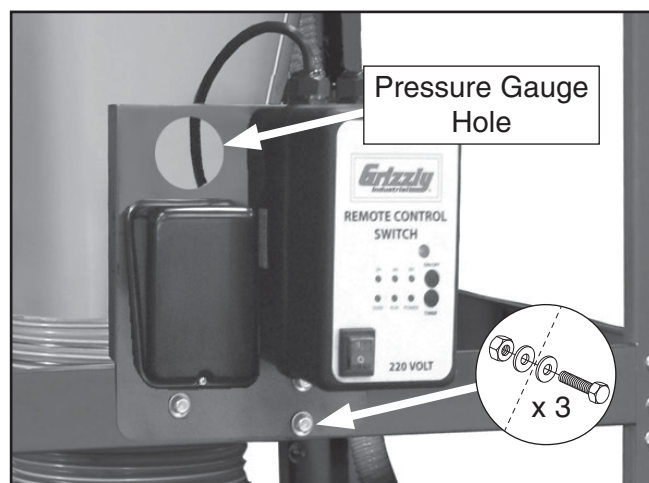

Figure 31. Switch mounted to stand.
42. Mount switch on stand, as shown in **Figure 31**, with (3) $\frac{3}{8}$ "-16 x $\frac{3}{4}$ " hex bolts, (6) $\frac{3}{8}$ " flat washers, and (3) $\frac{3}{8}$ "-16 hex nuts.
43. Place pressure gauge in hole on switch bracket from front (see **Figure 31**).